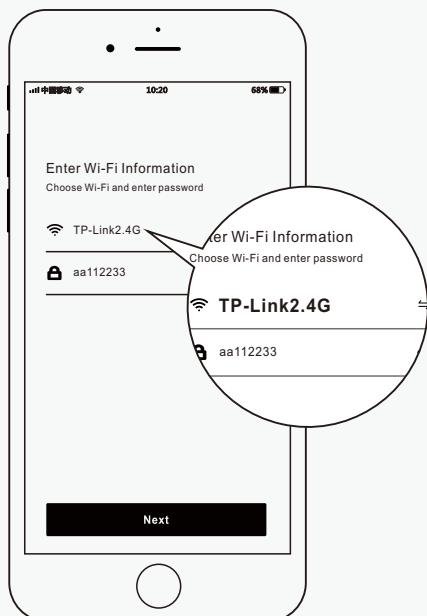

Figure 3
**Step 3.** When Figure 3 appears, please select the 2.4G wireless network and enter the correct password and click Next.